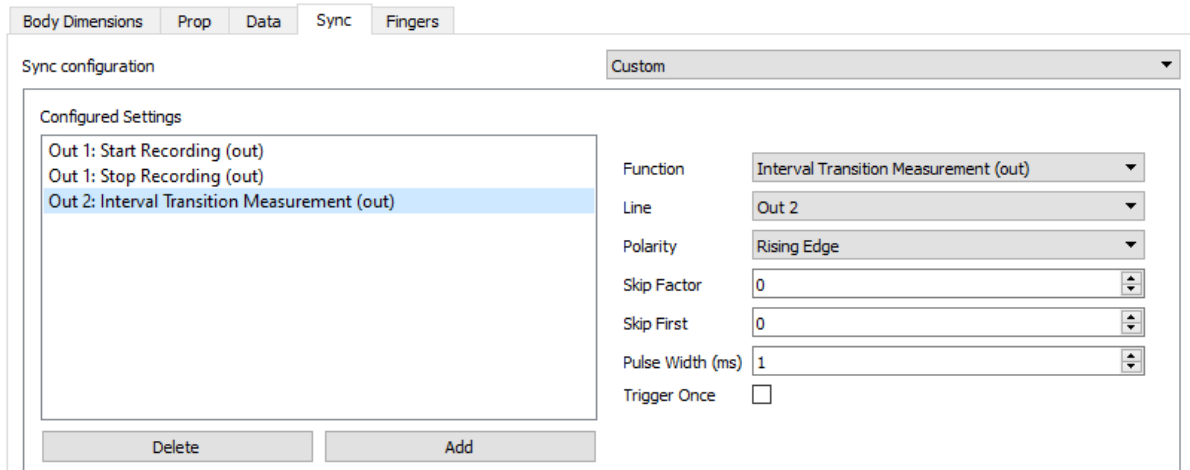

Figure 7 - Motion Capture Configuration window. Setting to add interval transition measurement.
3. In the synchronization tab (Figure 4) add the setting "Interval Transition Measurement". Please see Figure 7 for additional visualization.